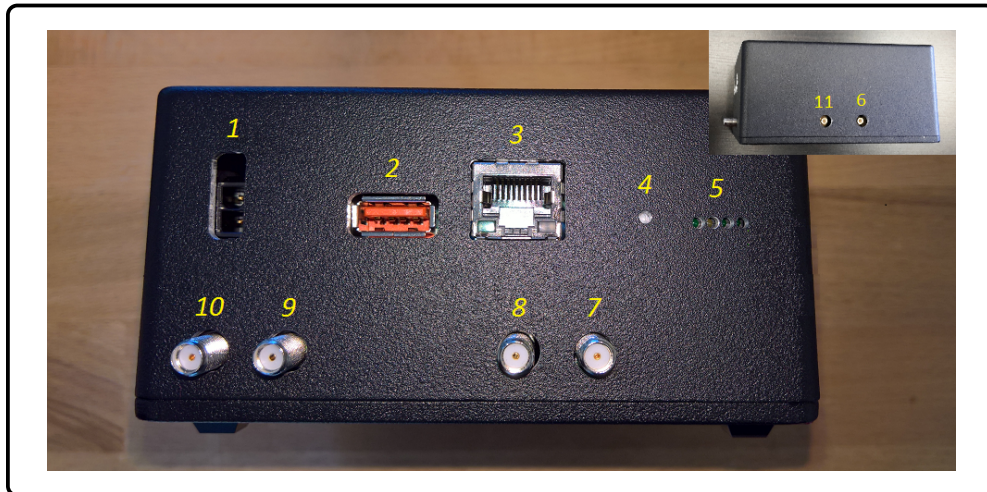

Figure 3.1: *LSI Correlator* connection panel
A picture of the *LSI Correlator* device connector panel is presented in Fig. 3.1, where it's backside is shown. A basic set of I/O cable adapters are provided by *LSI Correlator*. Available ports and I/Os are listed below according to Fig. 3.1 numbering:
6. **External Clock (Inset in Fig. 3.1: furthest from the connection panel):** Output square wave TTL signal for external device synchronization. The SMB related connector is located on the right side of the housing. Signal characteristics are listed in table 3.2.
11. **Output Trigger** (Inset in Fig. 3.1: closest to the connection panel) LLVT signal designed for mastering external devices. When no measurement is running the signal is off (LOW). When a measurement starts this trigger turns on and holds the value HIGH until the end of the measurement. A delay between the user starting action and the actual correlator acquisition start can be adjusted in the configuration panel (see sec 4.2).